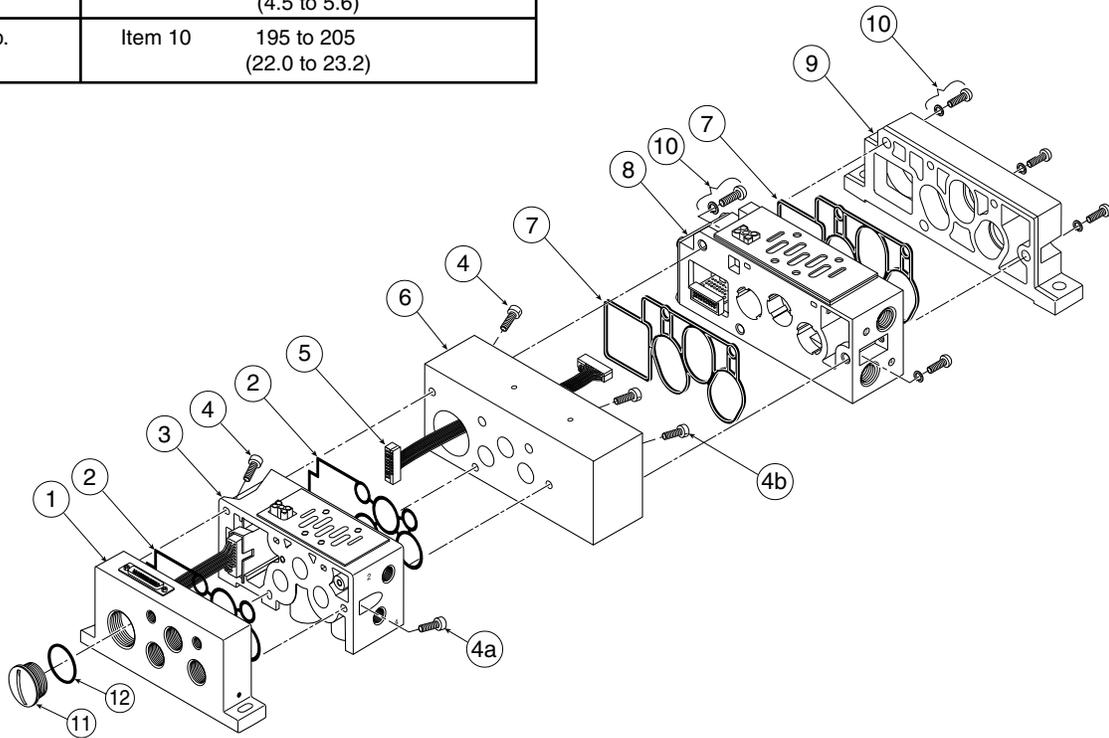

Figure 6 (H1 to H2 Transition Assembly)
**H1 to H2 Manifold Assembly (See Figure 6)**